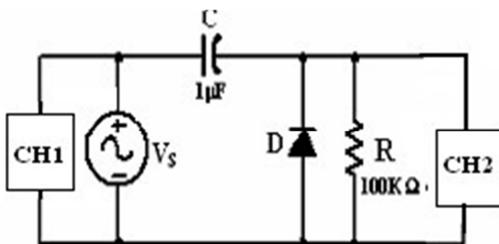

Figure 11
- 1- Construct the circuit shown in Figure 11, where the supply V_s is sinusoidal signal with **8Vpp,100Hz**